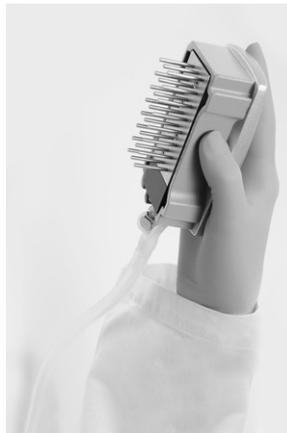

Figure 3. Illustration of the vacuum tool raised to beyond 90° vertical.
- 9. Raise the vacuum tool up and back, beyond 90° vertical, for 5 s to drain liquid from the filter probes (Figure 3).**
- 14. Raise the vacuum tool up and back, beyond 90° vertical, for 5 s to drain liquid from the filter probes (Figure 3).**
- 15. Close the vacuum switch on the tool (Off), and place the vacuum tool in the Parking (P) position.**